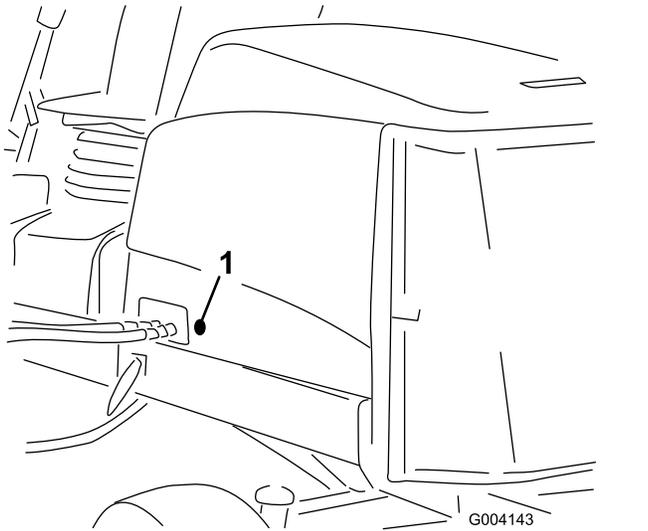

Figure 34
2. Remove the rubber grommet from the hole in the left side of the hood (Figure 34).